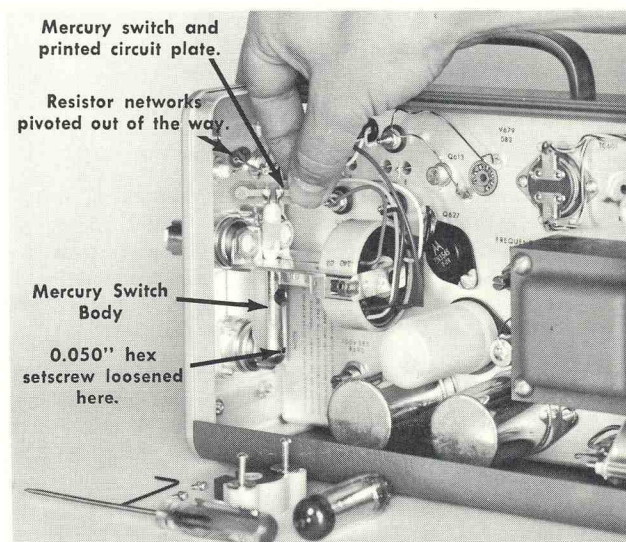

Fig. 5-1. Removing the mercury switch with circuit board attached.
4. Loosen the 0.050" hex setscrew located near the bottom of the mercury switch body (see Fig. 5-1).
6. Pivot the resistor networks out of the way. Lift out the circuit plate and the switch as a unit (see Fig. 5-1).